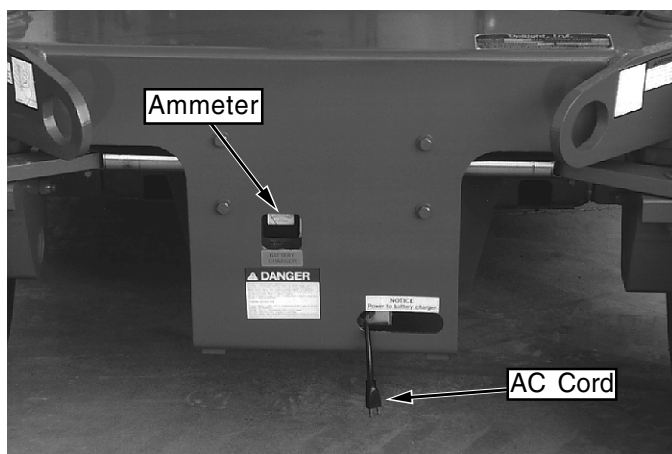

Figure 7: Battery Charger
3. Connect extension cord (minimum 12 gauge (1.5 mm²) conductor and maximum 50 ft. (15 m) in length) to charger plug located through the opening in front of the chassis (Figure 7). Connect extension cord to properly grounded outlet of proper voltage and frequency.
3. Lift flap located on top of chassis right side (see figure 7).